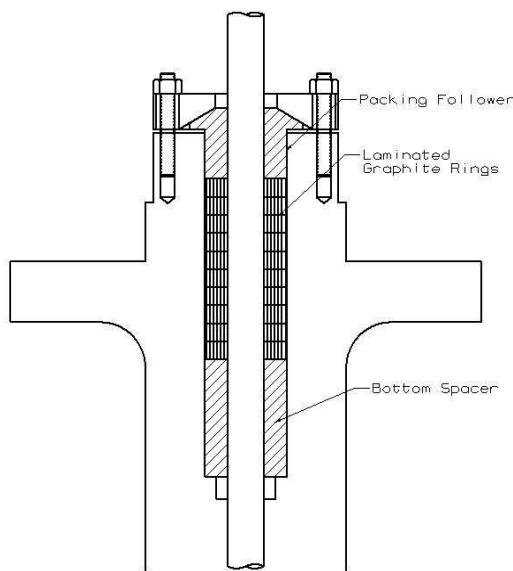

Figure 6 - Installation Sequence
1. Place metal ring in stuffing box making sure it bottoms in box followed by spring and second metal ring. Install bottom Teflon adaptor chevron, four Teflon packing chevrons and top Teflon adaptor chevron in accordance with Fig. 6.
DISASSEMBLY OF ACTUATOR FROM VALVE BODY ASSEMBLY (See Fig. 6, 6A, 7 and 9 in Appendix)
DISASSEMBLY VALVE BODY SUBASSEMBLY (VBSA) (See Fig. 6 and 6A in Appendix)